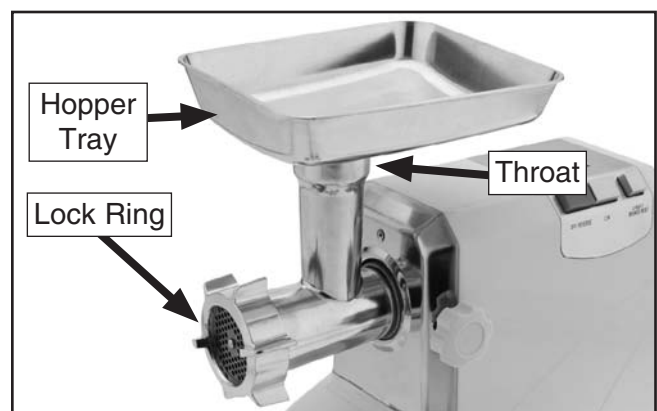

Figure 9. Lock ring and hopper tray installed.
7. Thread the lock ring onto the grinding head to secure the auger and grinding plate—but do not overtighten it—then insert the hopper tray throat onto the grinding head (see **Figure 9**).